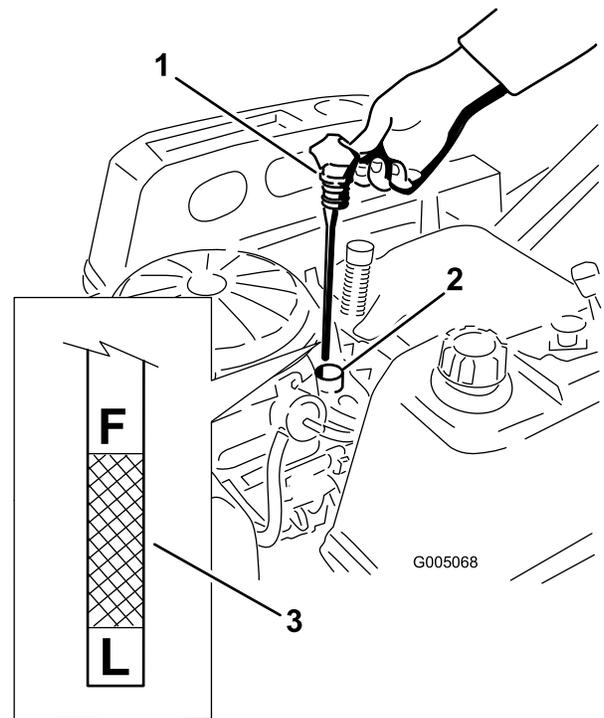
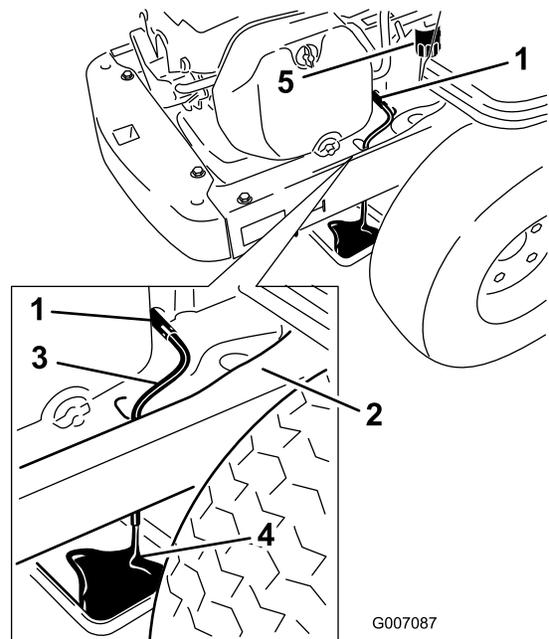

Figure 27
Figure 29
- Pull and remove the oil fill cap/dipstick; wipe oil off. Reinsert the dipstick and push firmly into place (Figure 27).
- Remove the dipstick and check the oil level. (Figure 27).
7. Place a pan underneath machine directly below the drain hole in the frame as shown in Figure 29.
8. Turn the drain valve 1/4 counter clockwise to open and allow the oil to drain (Figure 29). Remove the oil fill cap/dipstick (Figure 27).
10. Remove the old filter and wipe off the mounting pad (Figure 29).
11. When oil has drained completely, close the oil drain valve. Remove the oil drain hose and wipe up any excess oil on the frame (Figure 29).
15. Slowly pour approximately 80% of the specified oil into the filler tube (Figure 27).
16. Install the oil fill cap/dipstick and push firmly into place (Figure 27).
17. Check the oil level (Figure 27); refer to Checking the Oil Level.
19. Install the oil fill cap/dipstick and push firmly into place (Figure 27).